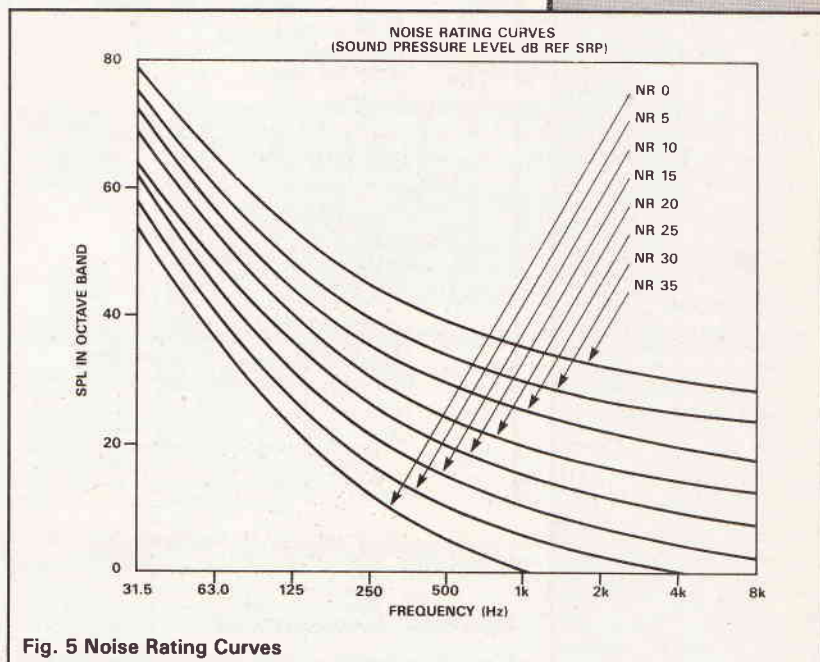
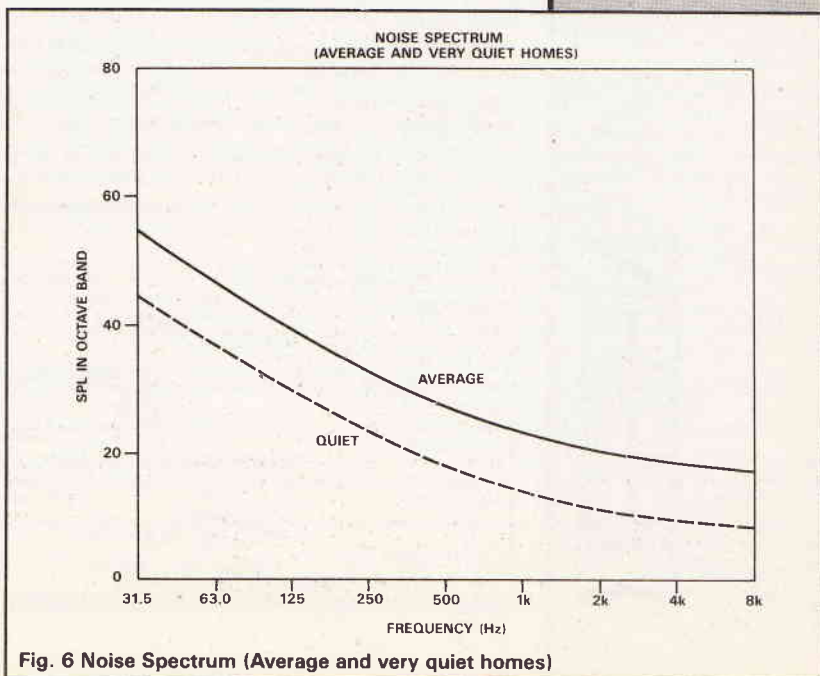

Fig. 5 Noise Rating Curves
Fig. 6 Noise Spectrum (Average and very quiet homes)
The amount of noise will have been established from the site survey, and the required internal levels will normally be established by reference to Noise rating (NR) curves (Figure 5). In general, levels between NRO and NR 35 will be needed, depending on the application. For comparison, the levels in typical living rooms are also shown (Figure 6). To attain these levels requires some effort. The addition of massive structures is fairly straightforward, but keeping them non-resonant is harder. Getting light and air to the work space is important which means